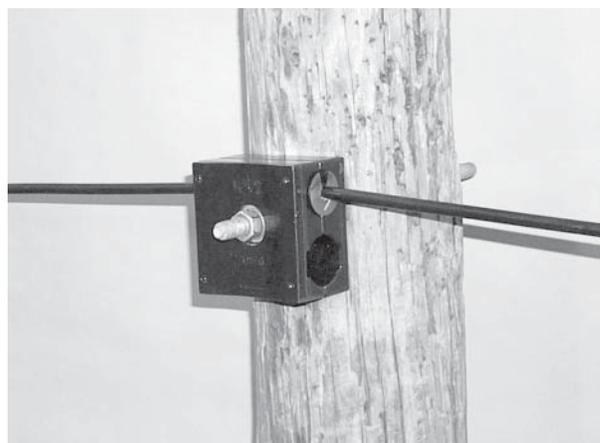

Figure 3 - FIBERLIGN Lite Support
4.1 FIBERLIGN Lite Supports (Figure 3) are used to support the cable at intermediate pole locations where the line angle change (direction or elevation) does not exceed 20 degrees.